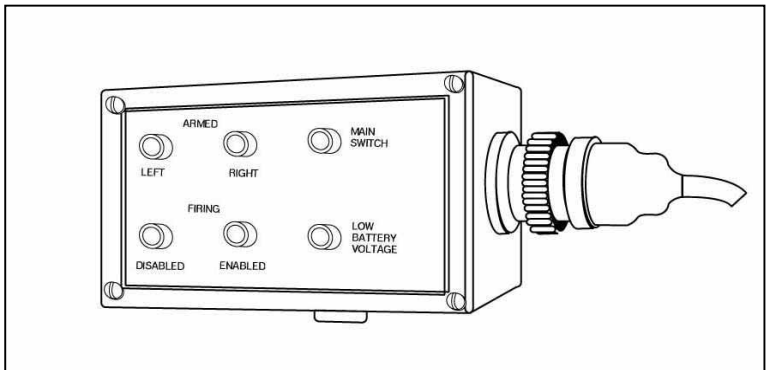

Figure 4-2-2: Crew Commanders Control Box
12. **Crew Commander's Control Box.** The crew commander's control box (see Figure 4-2-2) is located on the vehicle hull in front of the crew commander. The panel has red and green lamps which indicate the following: